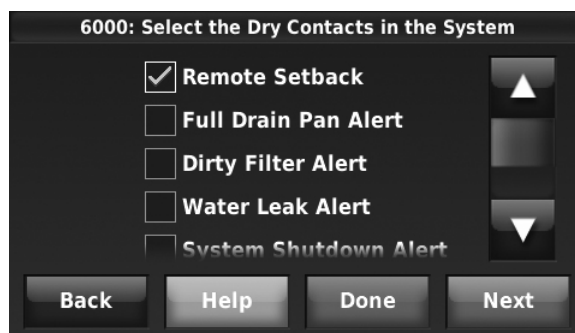

Fig. 190.
1. Select “Remote Setback” as shown in Fig. 190.